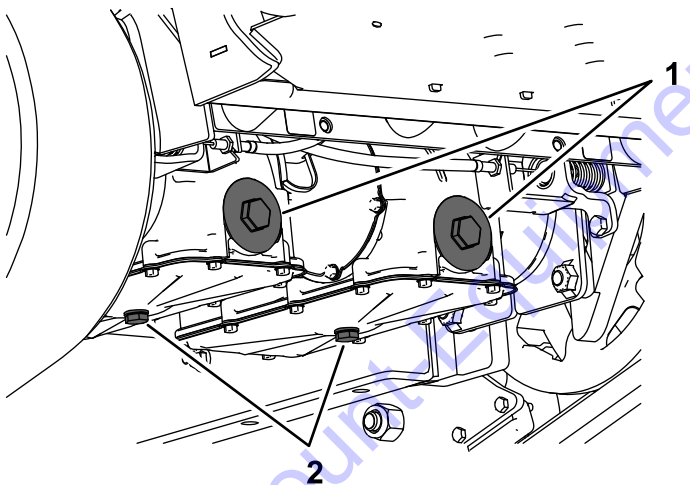

Figure 50
- Rear bolts (2)
- Side bolts (4)
- Locate the drain plug in the bottom of each transmission, then place a drain pan under the plugs (Figure 50).
- Remove the hydraulic-filter cap and hydraulic filter from each transmission (Figure 50).